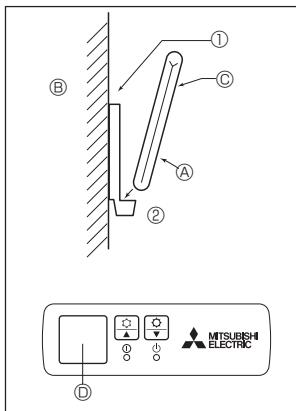
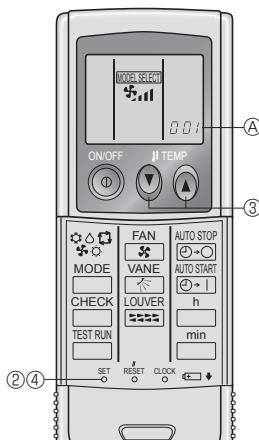

Fig. 6-2
Fig. 6-3
2) Installation method (Fig. 6-2)
- ① Attach the remote controller holder to the desired location using 2 tapping screws.
- ② Place the lower end of the controller into the holder.
3) Setting (Fig. 6-3)
- ① Insert batteries.
- ② Press the SET button with something sharp at the end.